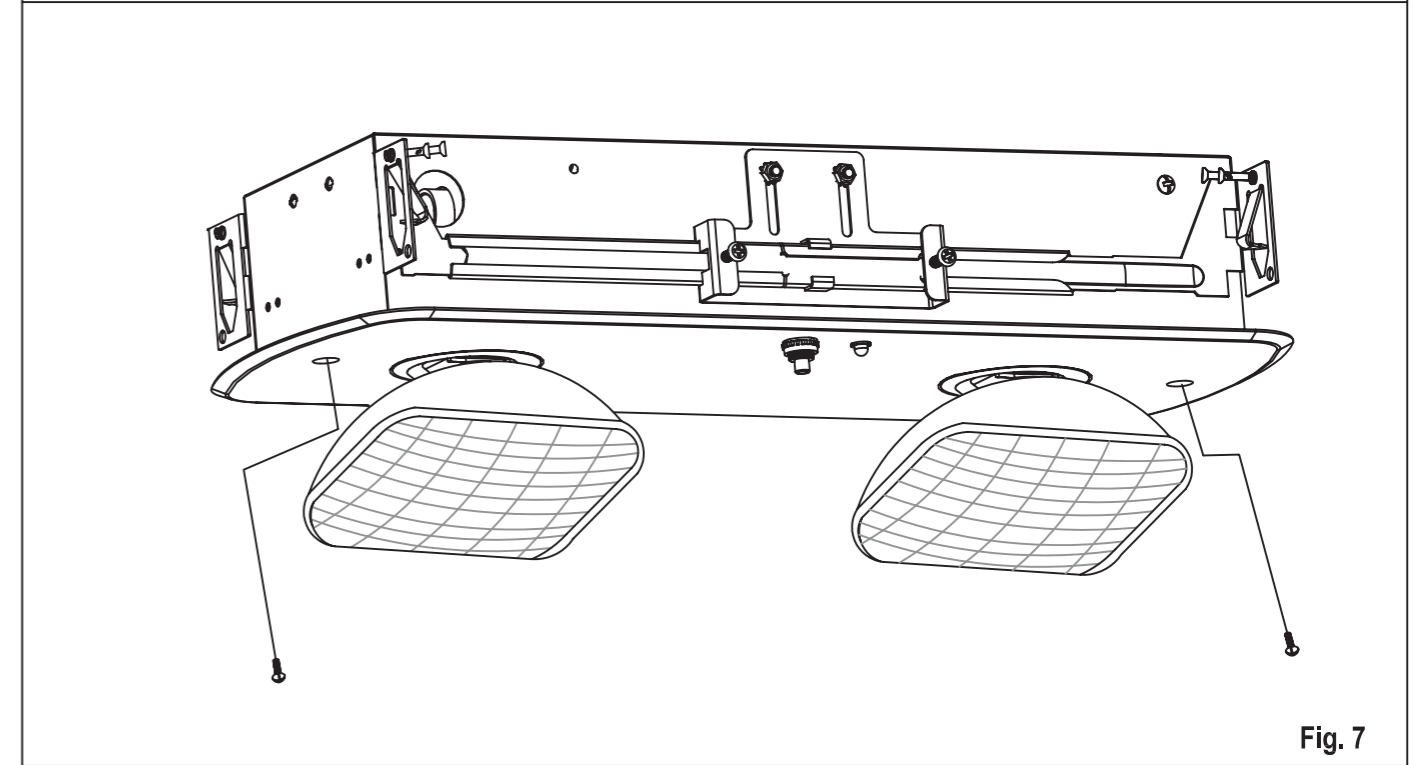

Fig. 7
7. Secure trim face plate using provided screws. (Fig. 7)